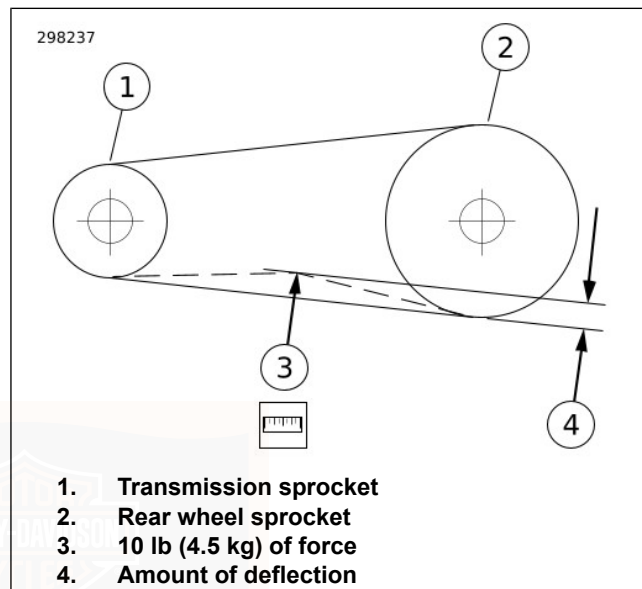

Figure 57. Checking Belt Deflection
- b. **All other models:** See Figure 57. Measure amount of deflection (4) while holding gauge steady.